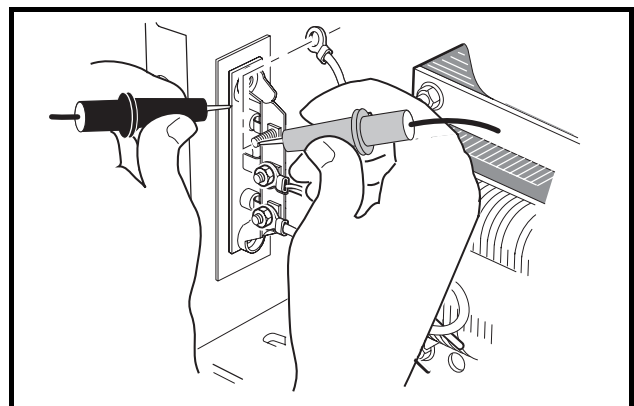

Figure 5-12 Diode Test – Probes Reversed
5. Reverse test probes and check each diode again and note the reading (**Figure 5-12, Page 5-19**). A diode is designed to conduct current in one direction only. If a diode conducts current (shows continuity) in both directions, the entire heatsink with diodes must be replaced. If a diode does not conduct current (does not show continuity) in either direction, the entire heatsink must be replaced.